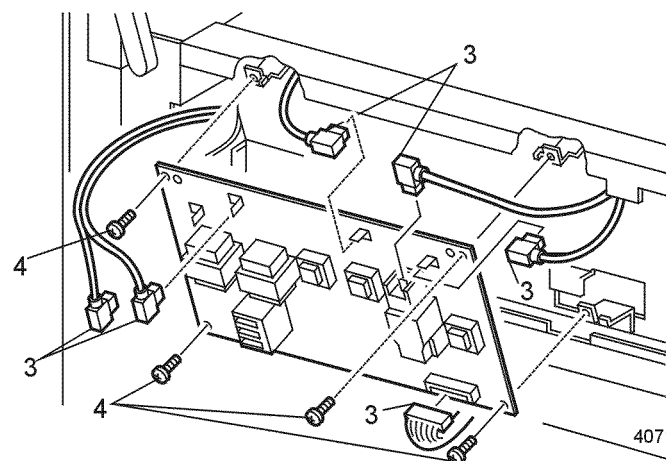

Figure 1 HVPS PWB
3. Disconnect P/J181, P/J182, P/J186, P/J187, P/J188, P/J185 from the HVPS PWB (Figure 1).
4. Remove the four screws that secure the HVPS PWB to the printer (Figure 1).